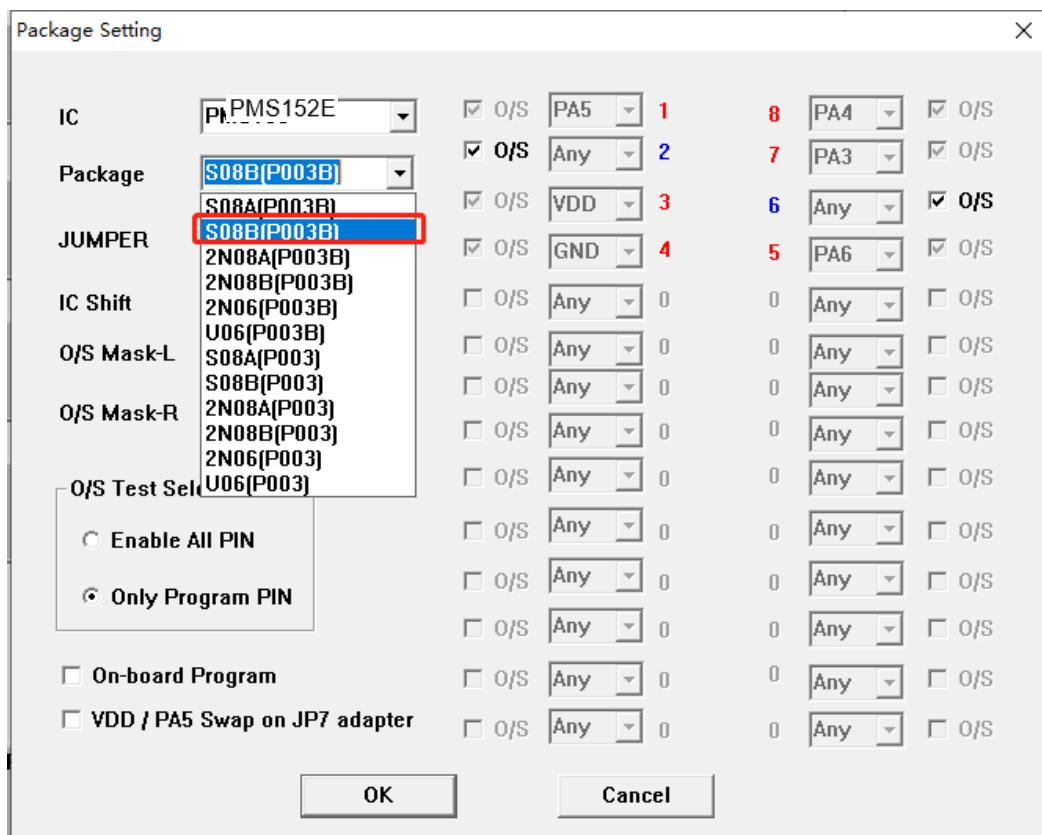

Fig. 28: PMS152E-S08B package setting when using P003B
1. For 5S-P-003B to write PMS152E-S08A, just use jumper2 and it needs downward four spaces on the Textool. Other packages need to convert the file and use jumper7. Taking the writing of PMS152E-S08B as an example, other packages only need to change the chip package and jumper7 connection in the “package setting” interface. The package settings are shown in Figure 28: